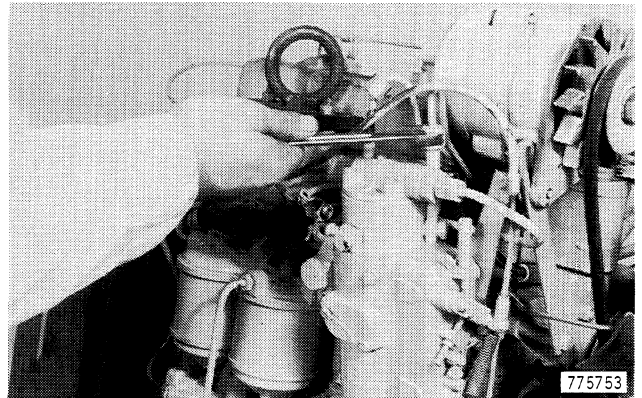

Figure 7
3. Disconnect the two tubes on top of the injection pump going to number 2 and 3 cylinder, Figure 7.